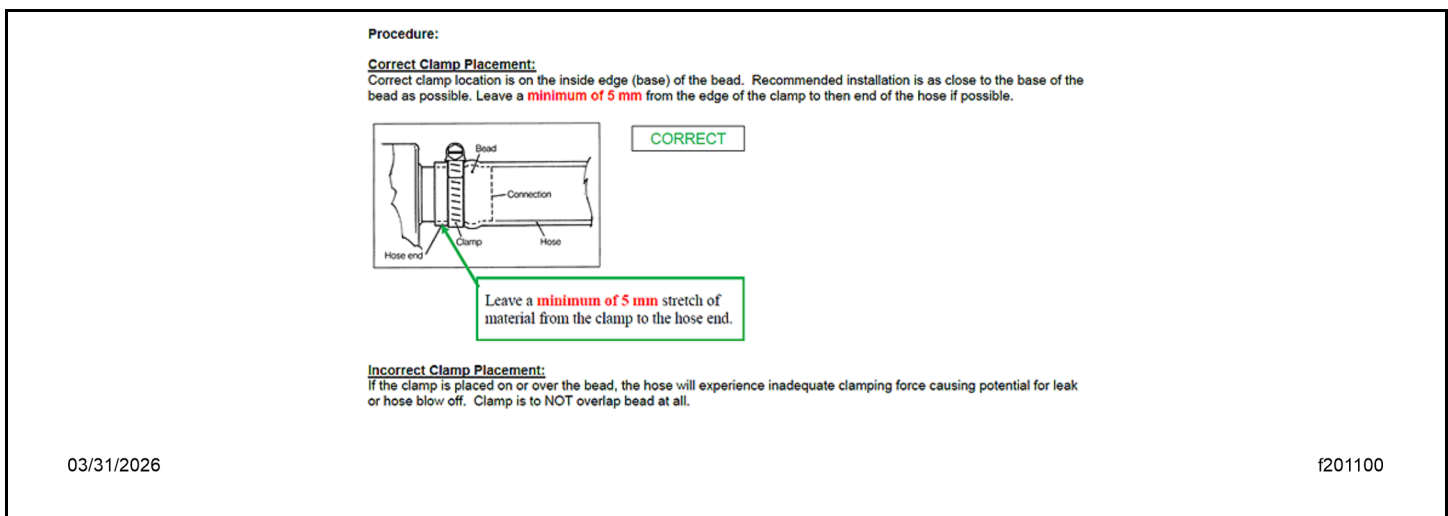

Fig 1, Clamp Placement
- 3.2 Inspect each clamp at its installation location and confirm the correct positioning on the hose fitting. See Fig. 1.